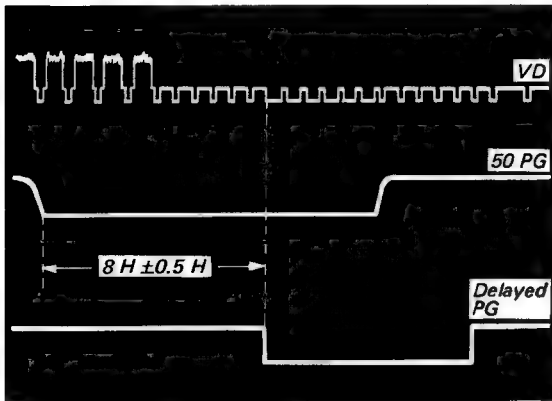

Fig. 4-4.
6. Adjust the 25 PG coil so that the 50 PG pulse leads the VD pulse by  $8 H \pm 1 H$ . See Fig. 4-4.